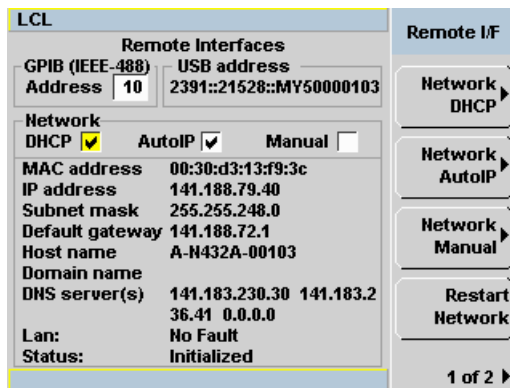

Figure 1-2 Enabling DHCP
- 3 Press  > **Remote Interfaces** to access the Remote Interface display (Figure 1-2). Ensure that **AutoIP** is selected.
- 2 Press  > **Remote Interfaces** to access the Remote Interface display (see Figure 1-2).